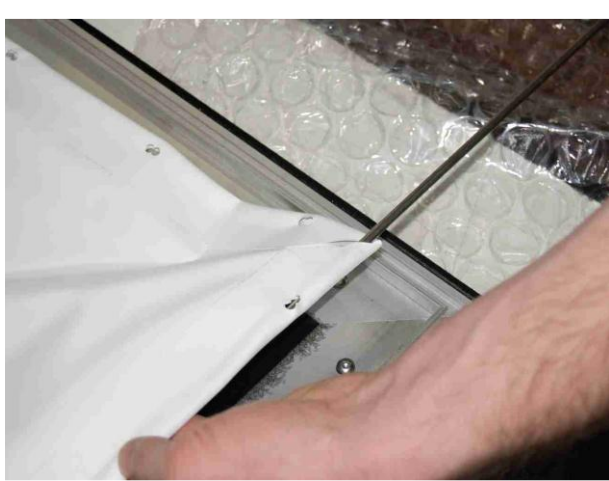

Fig.9
5. Gently insert the attached steel bars (Fig. 9) into the welded surface pockets. Then, pull and fix the surface to the frame with plates (Fig. 10 to Fig. 15).